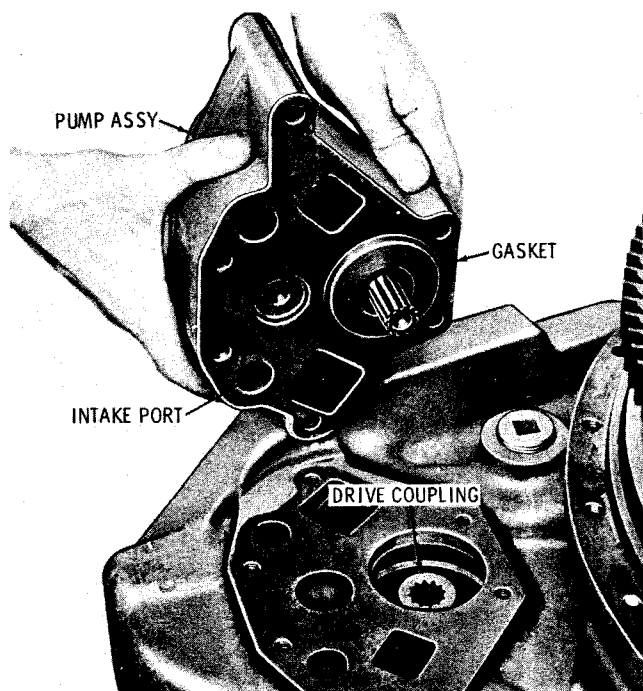

Fig. 5-12. Removing input pressure and scavenge pump assembly
(1) Remove six bolts and lock washers which retain the input pressure and scavenge pump assembly. Remove the pump assembly and gasket (fig. 5-12). Refer to paragraph 6-8 for pump assembly rebuild procedures.
(2) Remove the pump drive coupling by lifting it out of the pump drive hub (fig. 5-12).